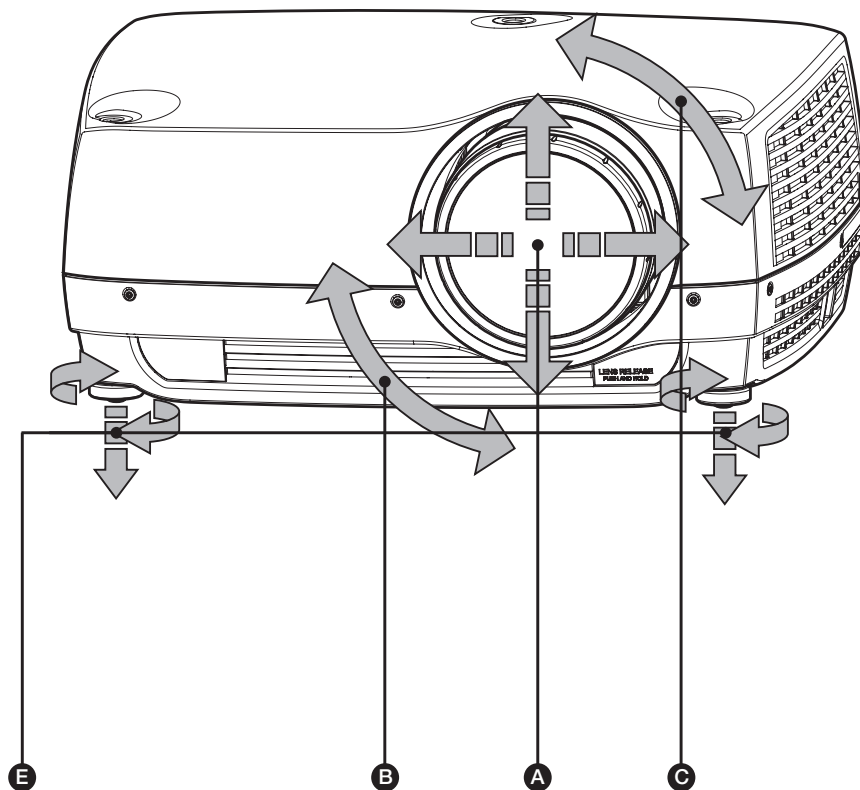

Figure 5-1. Image size and position adjustment
1. Adjustable feet (E in Figure 5-1).
3. Zoom (for lenses with zoom) in the lens controlled from the keypad, the remote control, RS-232 or LAN (B in Figure 5-1).
After the correct image size and position is found, please adjust the image focus using the keypad, the remote control, RS-232 or LAN. (C in Figure 5-1).